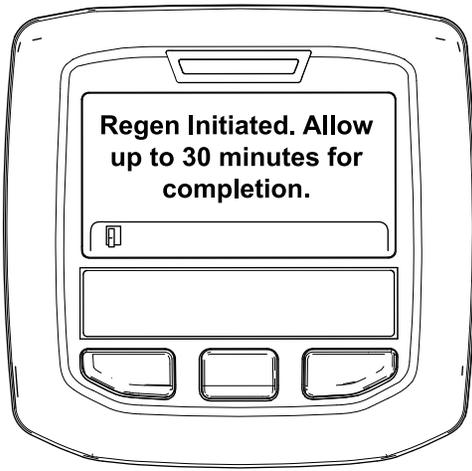

Figure 50
- If the regeneration is allowed, the "Regen Initiated. Allow up to 30 minutes for completion" message displays in the InfoCenter, wait for the machine to complete the parked regeneration process (Figure 50).